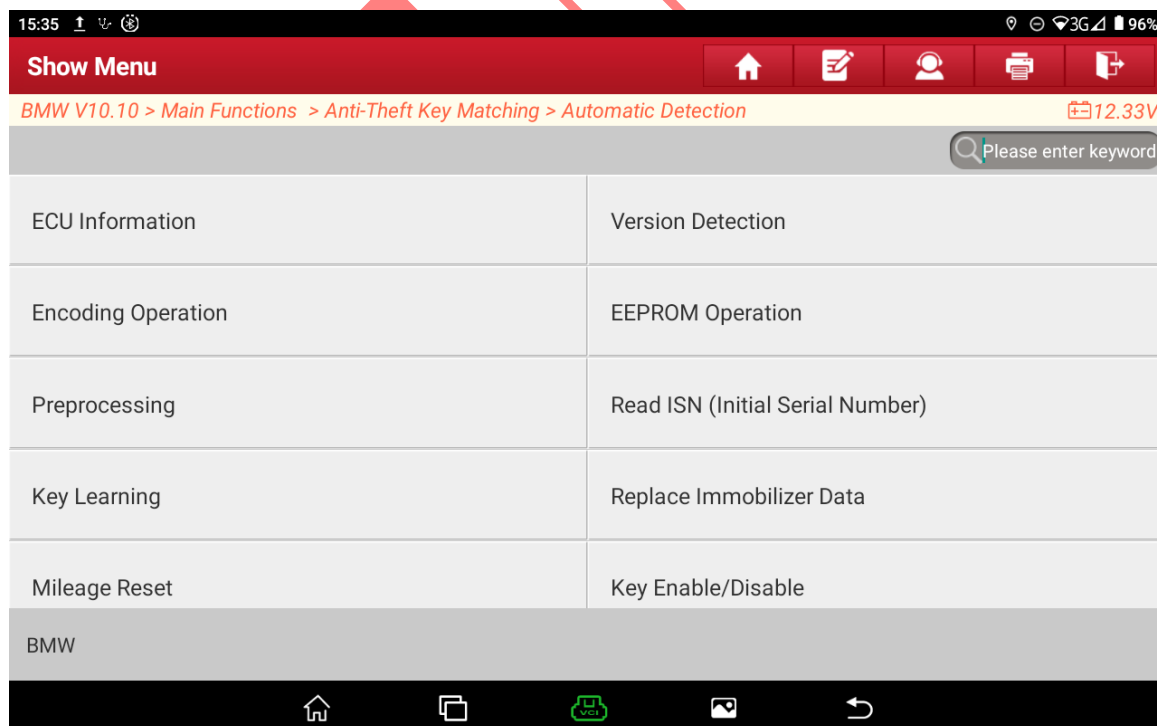

Figure 6
6. Select 【Version Detection】 to check if the current software version of the anti-theft system supports it, as shown in Figure 6.